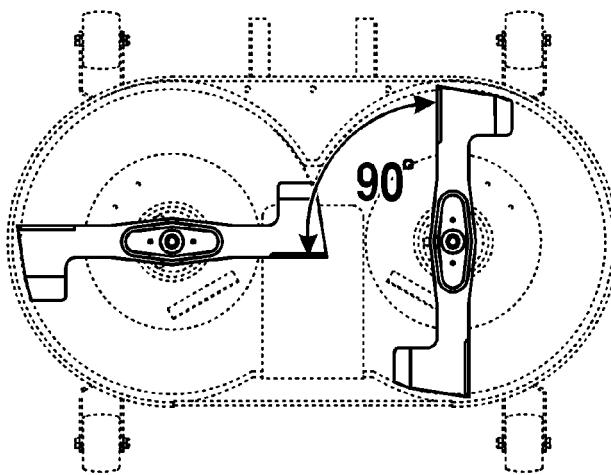

Figure 37
2. Position the blades 90 degrees to each other (Fig. 37).